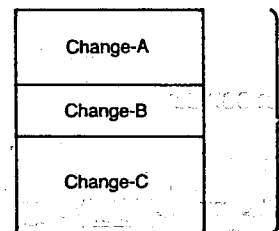

Fig. 10-3
- 1) To revise a large numbers of program portions by the normal SSP, these portions are linked together into one SSP before entered through the keyboard. (Fig. 10-3)